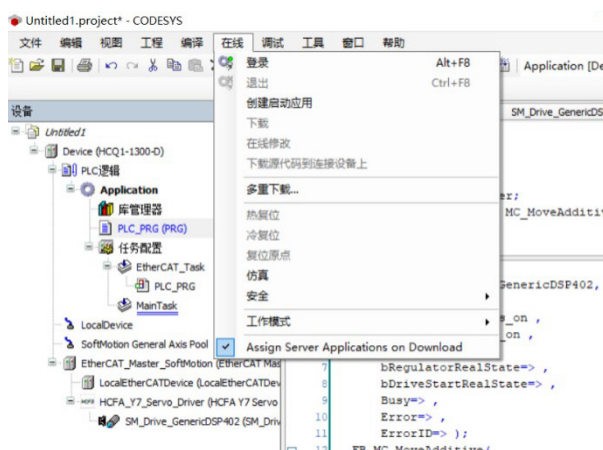

Figure 13-17 Controller login
1. After compiling, click [Online-Login], as shown in Figure 13-17.